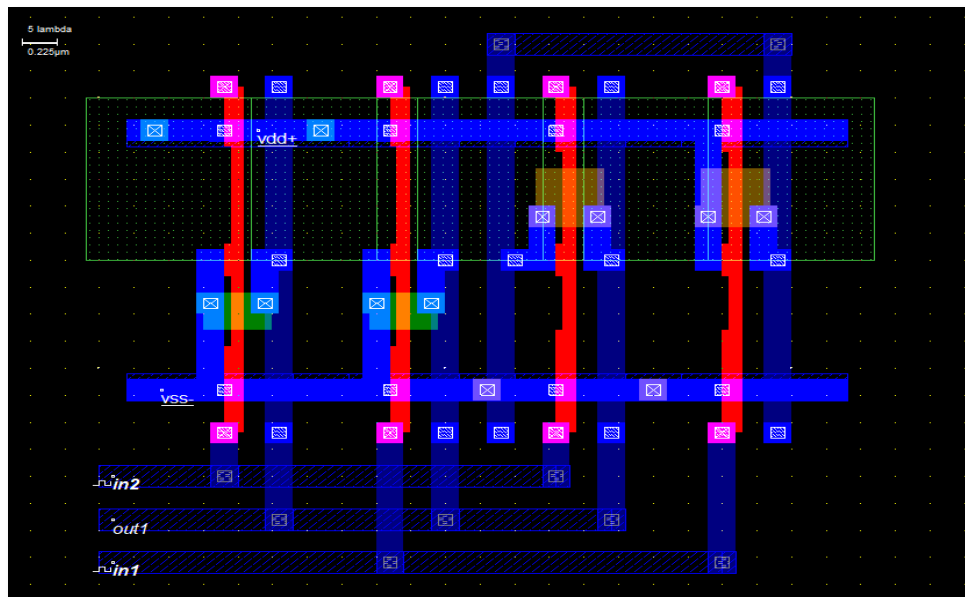

Figure 30: NOR layout using automatic layout generation procedure
- Click on OK. The capacitance is shown on the left bottom corner with a value of 0.016 pF. See figure 30: